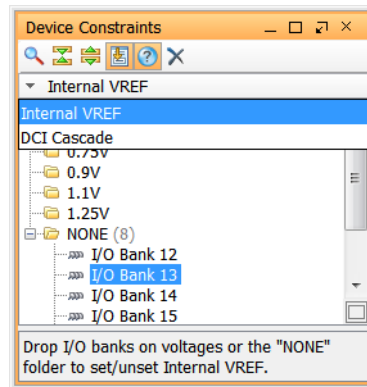

Figure 3-10: DCI Cascade Drop-Down Menu
1. In the Device Constraints window, select **DCI Cascade** from the drop-down list at the top of the window (Figure 3-10).